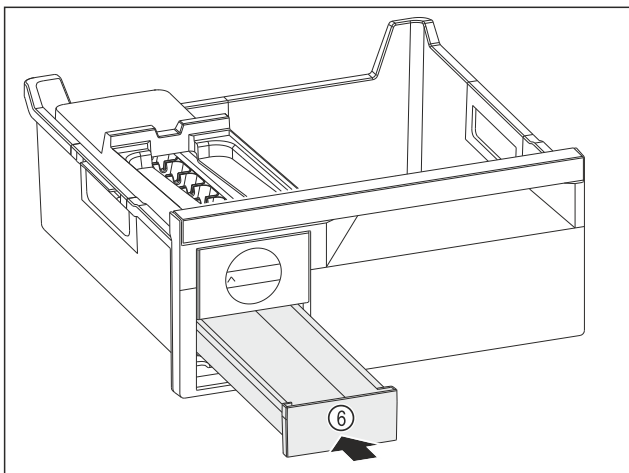

Fig. 81
- ▶ Insert the ice cube drawer Fig. 81 (6).